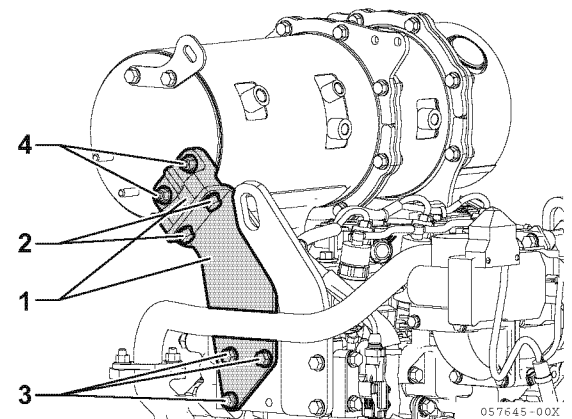

Figure 13-28
- Next, affix the DPF unit to the DPF stay on the flywheel housing side. First, slightly loosen the fixing bolts (2, Figure 13-28) of the DPF stay (1, Figure 13-28) on the flywheel side in 2 locations so that these have some play. Temporarily tighten the fixing bolts (4, Figure 13-28) that fix the DPF unit and stay. Next, temporarily tighten the DPF stay fixing bolts (2 Figure 13-28) until it seats, then fully tighten the DPF and stay fixing bolts (4 Figure 13-28). Lastly, fully tighten the DPF stay fixing bolts (2 Figure 13-28).
Note: In principle, it is not necessary to loosen the fixing bolts (3, Figure 13-28) that affix the DPF stay to the engine, however adjust according to conditions.